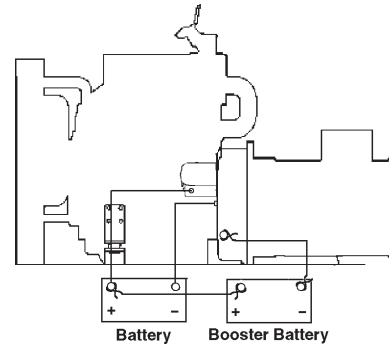

Figure 11: Battery Connections
3. First, connect positive (+) terminal of booster battery to positive (+) terminal of main battery. Then, connect negative (-) terminal of booster battery to ground on the engine block (see Figure 11).